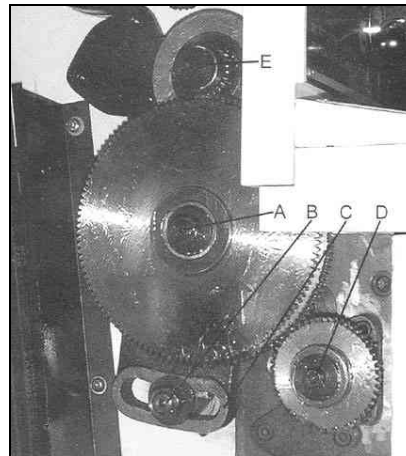

Fig 17
- Loosen nuts (A, B, Fig 17) to disengage the quadrant (C).